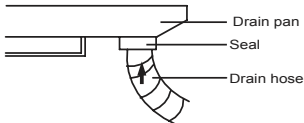

Fig.21
- (1) For determining the position of the drain hose, perform the following procedures.
- (2) Insert the drain pipe to the drain outlet of the unit and then tighten the clamp securely with tape. (Fig.21)
- (3) Connect the extension drain pipe to the drain pipe and then tighten the clamp with tape.